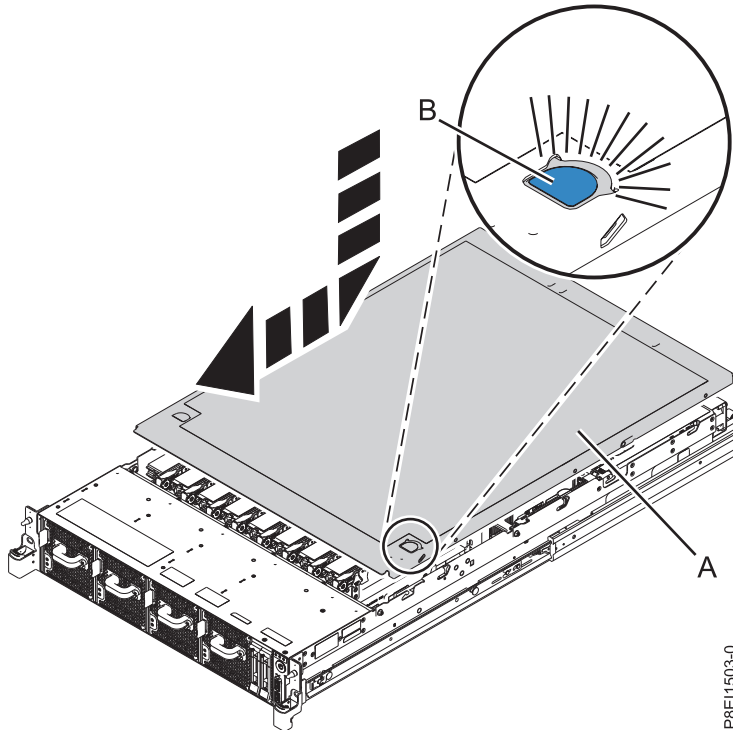

Figure 66. Installing the service access cover
1. Place the cover (A) on to the system unit such that the alignment pins on the cover are aligned to the slots on the chassis.
2. Press down to engage the pins and slide the cover to the front of the system until the blue release latch (B) locks in to place, as shown in Figure 66.